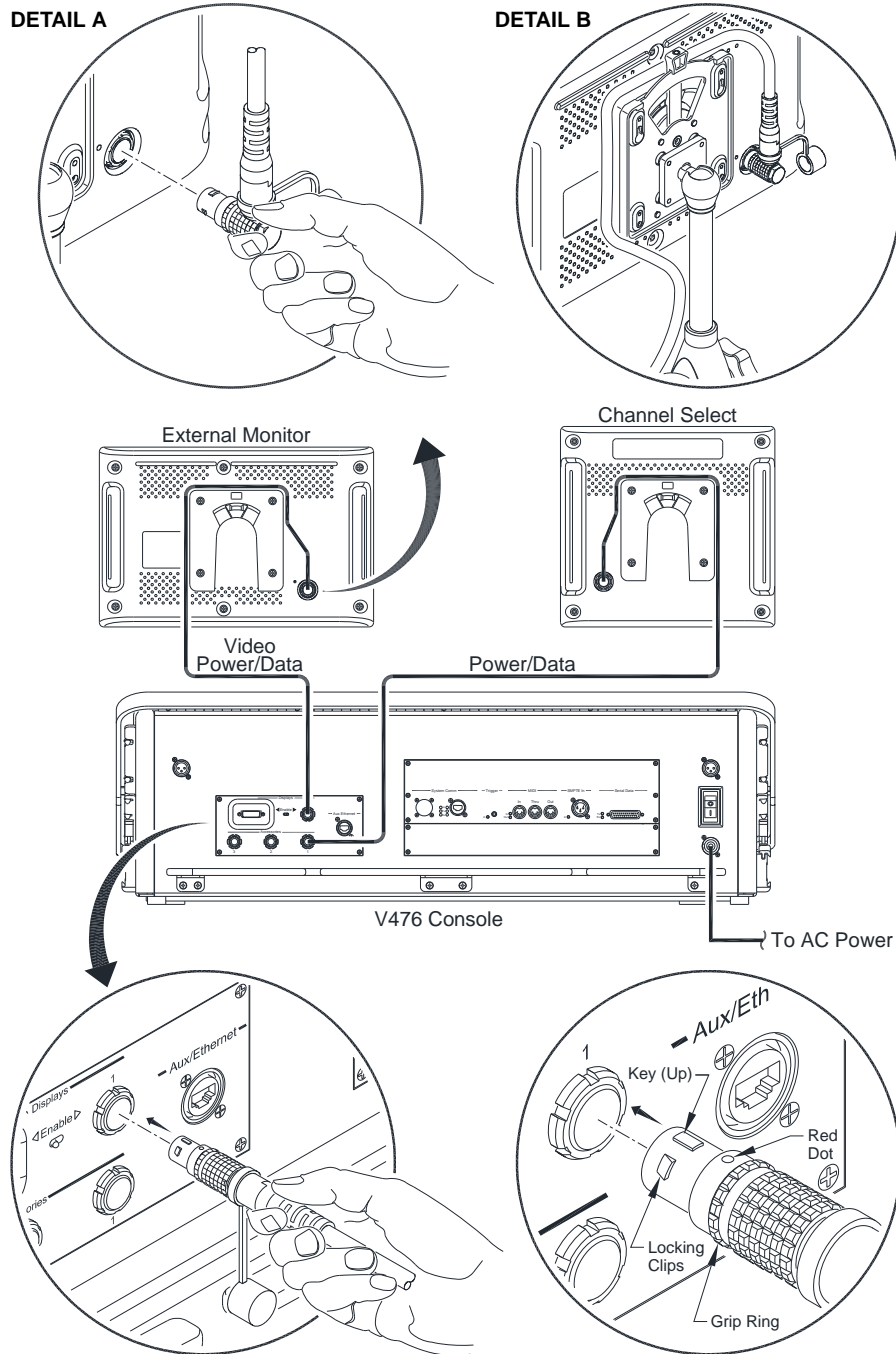

Figure 1-17: Connecting Components and Computer to V476 Console
- Step 5. Connect components and computer to console using supplied cables (**Figure 1-17**). Install LEMO style connectors as shown.